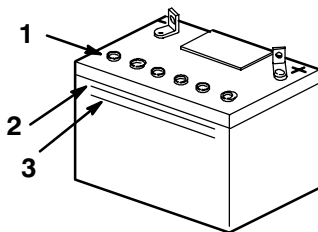

Figure 21
- Look at the side of the battery. The electrolyte must be up to the Upper line (Fig. 21). Do not allow the electrolyte to fall below the Lower line (Fig. 21).
- Remove the vent caps from the battery (Fig. 21).
- Slowly pour distilled water into each battery cell until the electrolyte level is up to the Upper line (Fig. 21) on the battery case.
- Wait five to ten minutes after filling the battery cells. Add distilled water, if necessary, until the electrolyte level is up to the Upper line (Fig. 21) on the battery case.